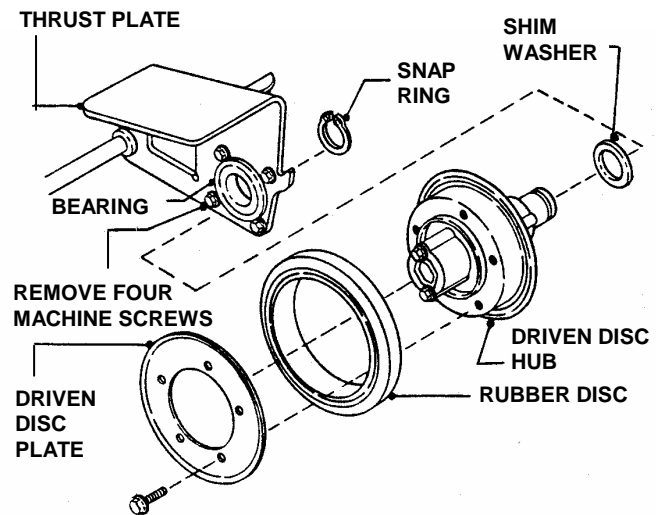

FIGURE 4.13
3. Remove the two retaining rings which secure the rubber driven disc to the driven disc assembly. See Figure 4.13.
1. Remove snap ring. See Figure 4.13.